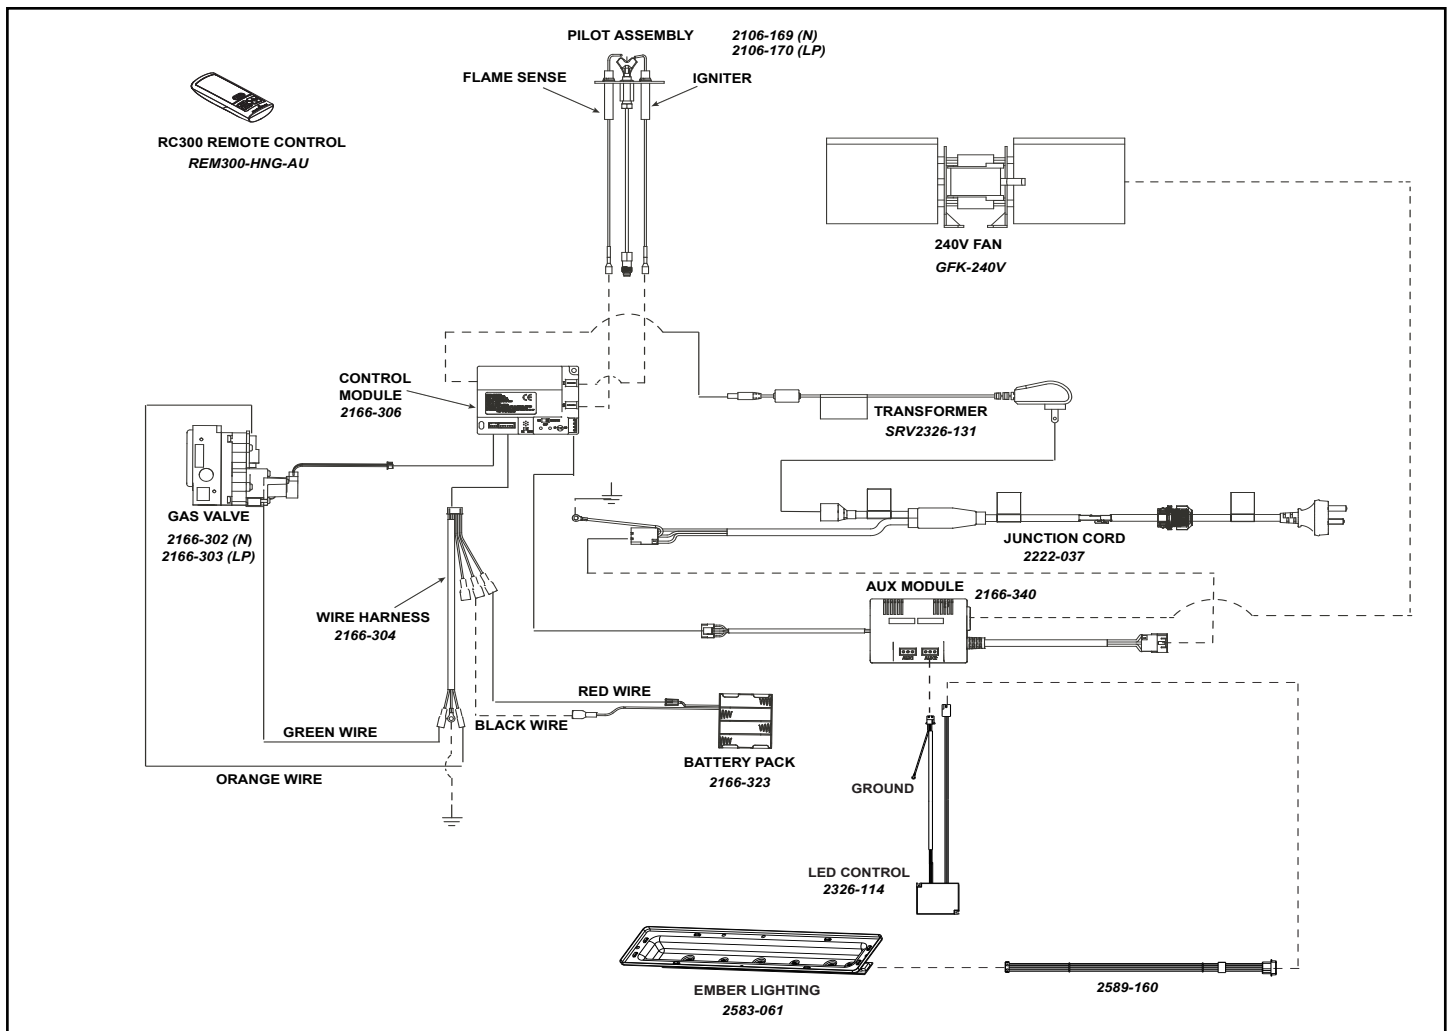

Figure 8.1 IntelliFire® Plus Wiring Diagram with Remote
- Refer to Figure 8.1, IPI Wiring Diagram.
The junction cord, control module, LED power supply and wall switch receiver can be accessed by removing the vanity panel and component heat shield. The decorative front must be removed to access these components. See Figure 8.1.